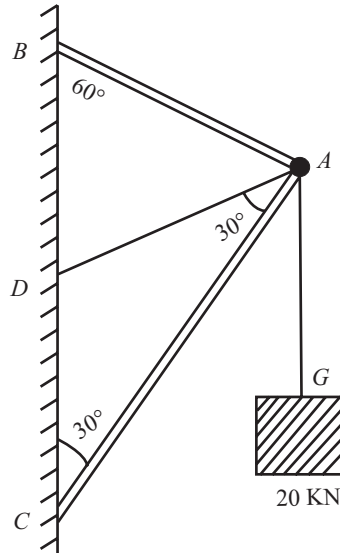

Fig 8.66
Q. 28: The frictionless pulley A is supported by two bars AB and AC which are hinged at B and C to a vertical wall. The flexible cable DG hinged at D goes over the pulley and supports a load of 20KN at G. The angle between the various members shown in fig 8.66. Determine the forces in AB and AC. Neglect the size of pulley. (Dec-01-02)